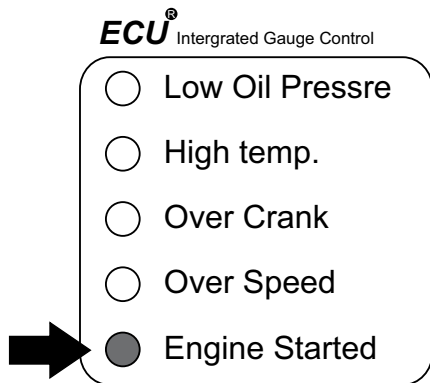

Figure 42. ECU Controller (Engine Started LED)
- Verify that the engine started status LED on the ECU controller is on (Figure 42).